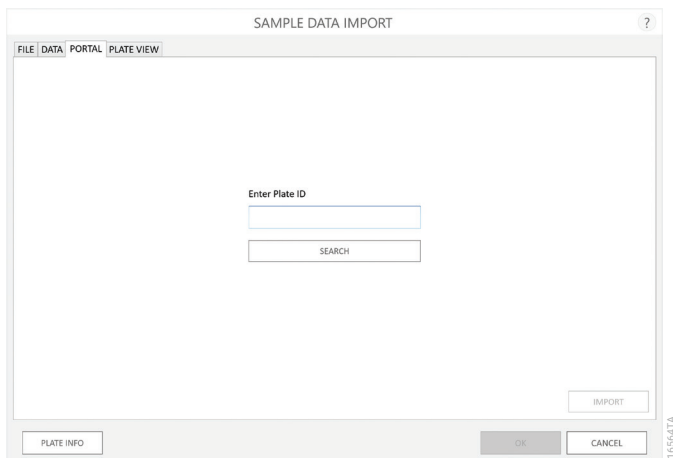

Figure 48. Portal Tab on the 'Sample Data Import' screen. Use the Portal tab to retrieve plate map information from the Portal software.
4. From the 'Sample Data Import' screen, tap the Portal tab (Figure 48).